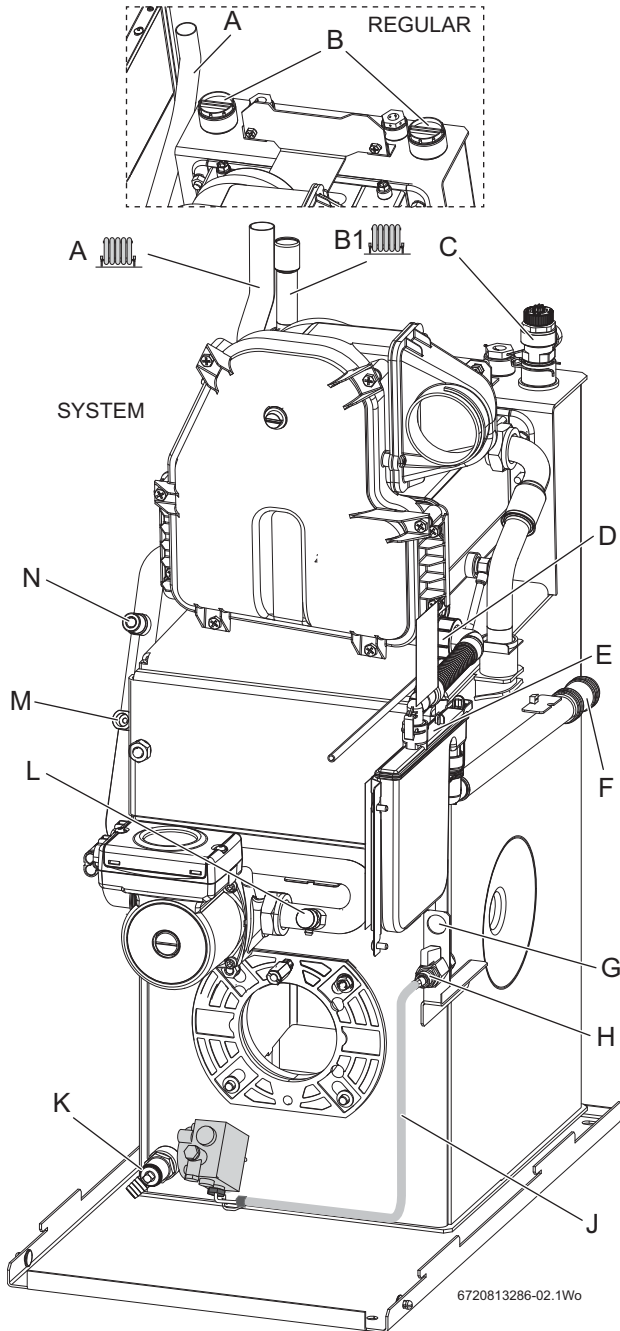

Fig. 45 Pipework connections
- ▶ Refer to figure 45 and ensure that the isolating valve (H) is closed and route the oil supply pipe along the right side of the boiler and connect to the isolating valve (H).
2. Connect the flexible oil pipe return hose [3] (not supplied) to the oil pump and return pipe fixing and tighten to secure (for routing see figure 45).